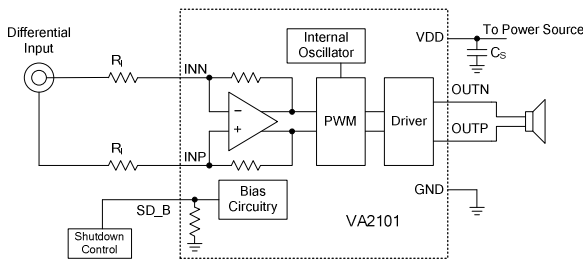

Figure 1. Differential Input Configuration
The gain of VA2101 is set by external resistors  $R_i$  shown in Figure 1. Set the gain of the amplifier according to the following equation:
The VA2101 can be used in many circuit input configurations. The simplest and best input configuration is the direct-coupled differential input show in Figure 1. The resistors  $R_i$  set the gain of audio amplifier. Refer Equation (1) to calculate.